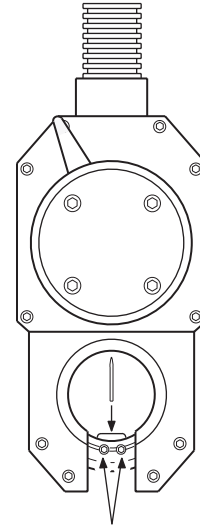

Figure 9 Electrode Installation
1. Without the fixture block attached, press **ELECTRODE CHANGE** on the operator panel. The electrode will move to the position shown in Figure 9.